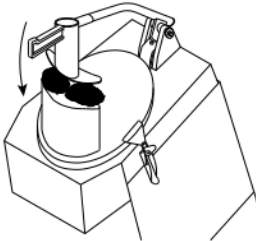
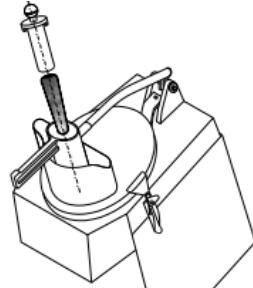

Fig. 12
Fig. 12a
- a) fill the device with selected products for cutting through the hole in the cover (see fig. 12). Smaller pieces (carrot, zucchini, etc.) insert through the pusher lever pipe (see fig. 12a). Start the device by pressing **Start "I"** and gently press the pusher lever down, while filling through the pipe use plunger.